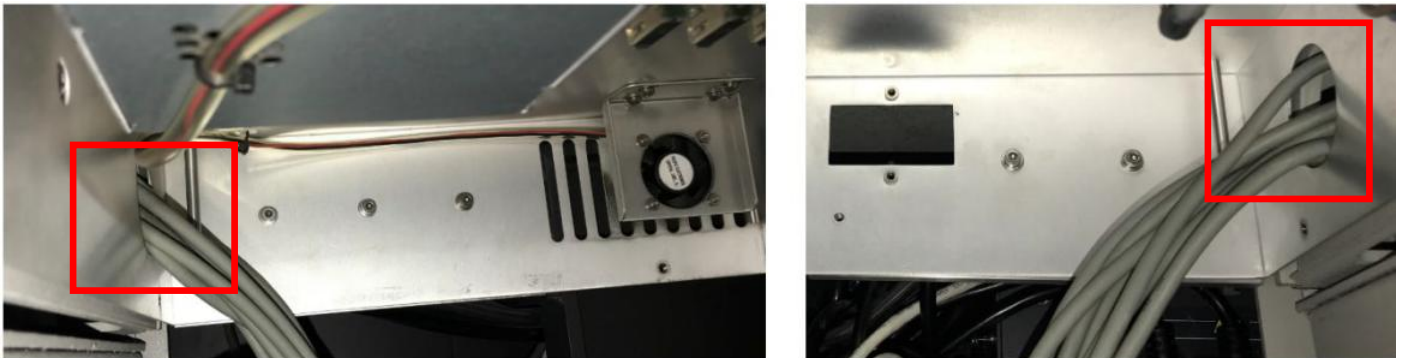

Figure 9 Fire Wire removal
11. Gently remove 14 x Fire Wire through both tray opening as below Figure 9